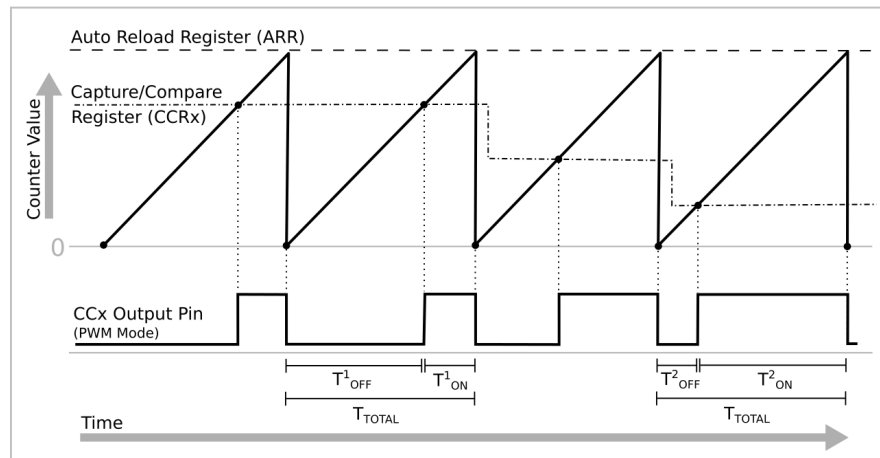

Figure 3.6: Edge-aligned PWM mode and output pin state.
The PWM mode operates almost exactly as the output compare mode of the timer; the difference is that the output pin state also changes whenever the timer counter resets to begin a new period. There are different modes of PWM that the capture/compare system can generate: figure 3.6 demonstrates one of the possible PWM modes. In the mode from figure 3.6, the output pin begins the PWM period at a low state and goes high once the timer's counter matches the CCRx register; this output resets to low again when the next period starts. The location of the CCRx value relative to the ARR register value determines the overall ratio of on/off (duty cycle).
7. What PWM mode is shown in figure 3.6 of the lab manual (PWM mode 1 or 2)? ■